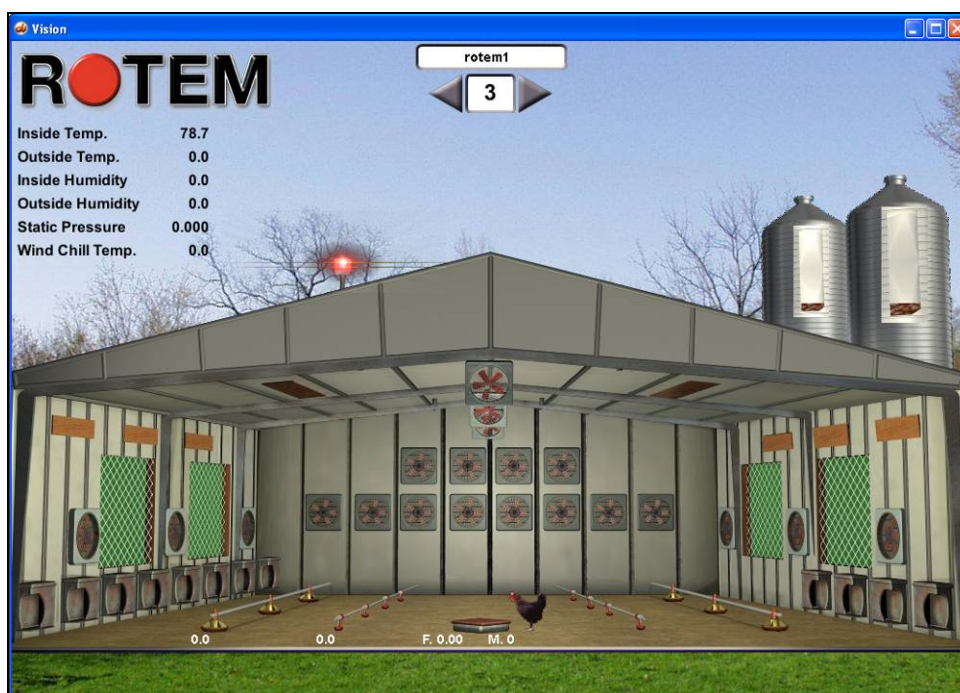

Figure 56: Vision Screenshot Result
- The Vision screen, displaying the chosen features, appears (Figure 56).